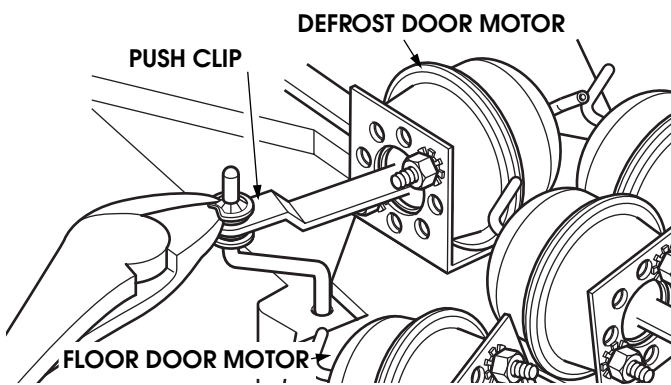

Figure 11-101: Push Clip removal
- Remove arm retaining push clip, arm and 2 washers from the floor door and defrost door (Figure 11-101).